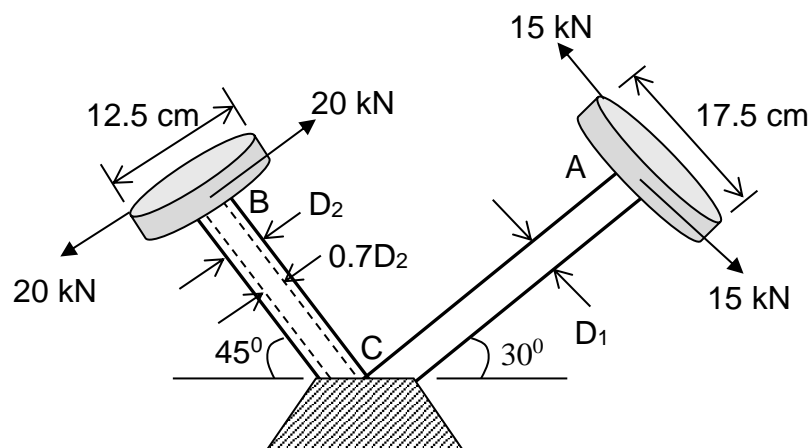

Figure 5/Rajah 5
4. (a). A solid bar AC and a hollow bar BC are welded at the base to form a rigid connection at C as shown in **Figure 5**. Two circular disks A and B are welded to the ends of both bars. The disks lie in planes perpendicular to the axes of the bars. Forces 15 kN and 20 kN act on disks A and B subjecting the bars to torsion. If the allowable maximum shear stress is 35 MPa and the allowable rate of twist is $3^\circ/\text{m}$ for both bars, determine the smallest outer diameter (D_1 and D_2) of both bars. The shear modulus of elasticity is 39 GPa.